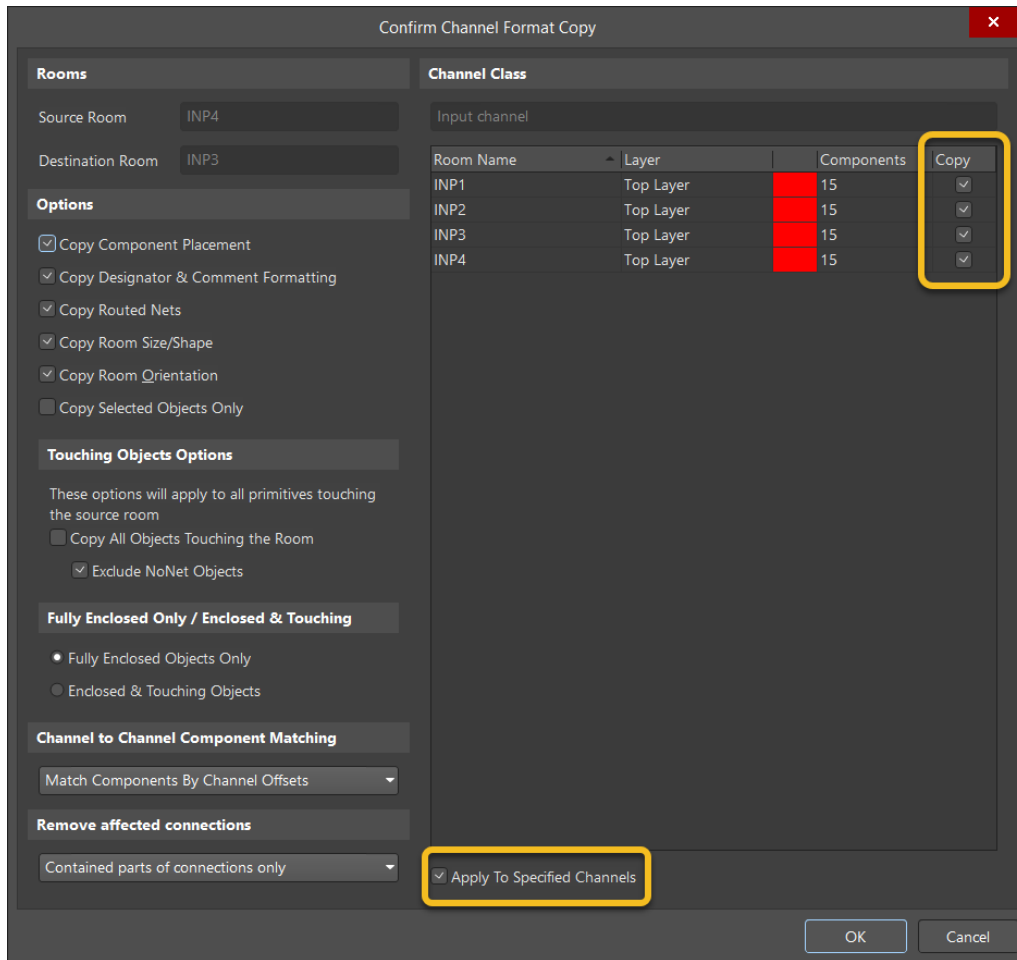

Figure 11. Copy Room Format dialog
28. Then, click on Room **INP1** to designate it as the *Destination Room*. The *Confirm Channel Format Copy* dialog will appear, as shown in Figure 11.